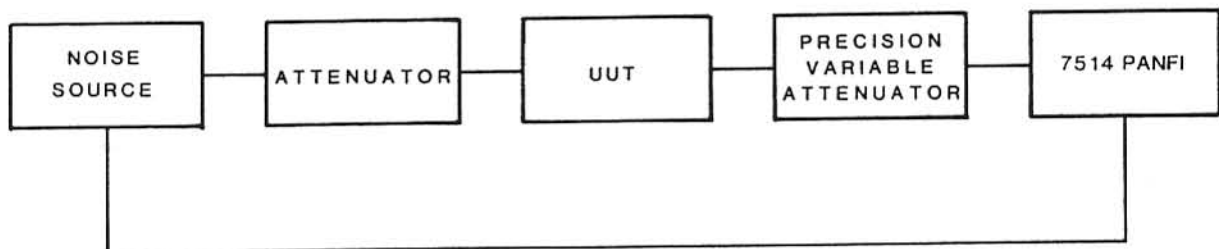

FIGURE 5-2. SETUP FOR CHECKING PANFI NOISE FIGURE ACCURACY
- a. Set up the equipment as shown in Figure 5-2. See paragraph 5-10 for UUT requirements. It is preferable to use a UUT that has a noise figure less than 6 dB.